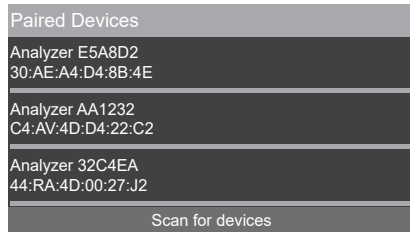

Figure 35. Select a Device/Analyzer to connect
- From the drop down list, tap the correct analyzer/device to connect to. See Figure 35.